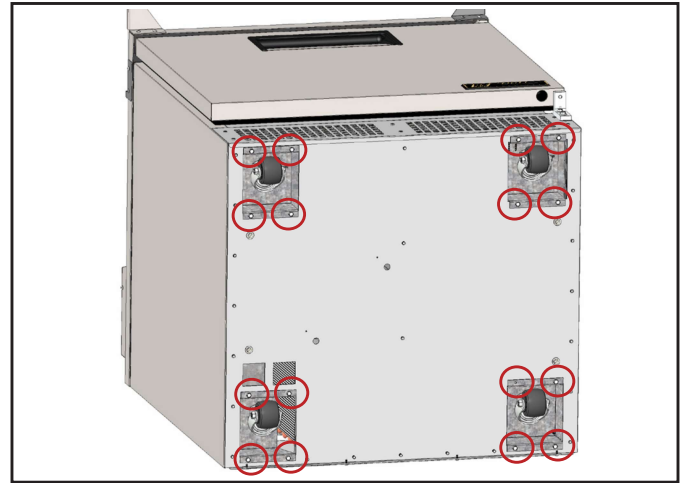

Fig. 11. Locate castor box. Back out the four screws anchoring the box.
2. Remove the castor box. See fig. 11.